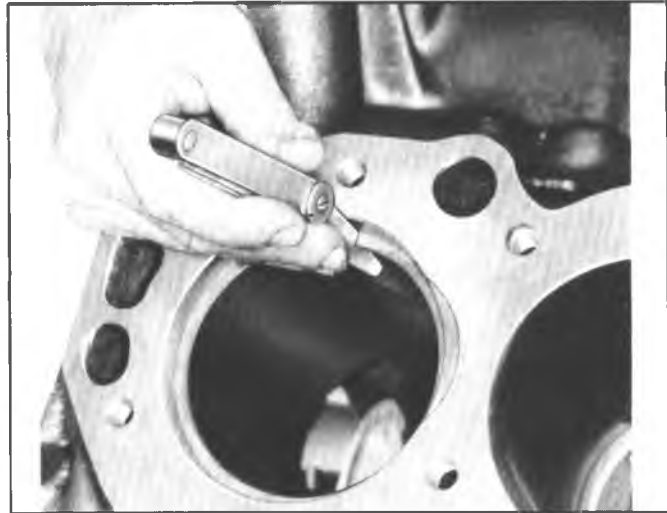

Fig. 6A4-54--Measuring Ring Gap
3. Measure the space or gap between the ends of the ring with a feeler gage (fig. 6A4-54).